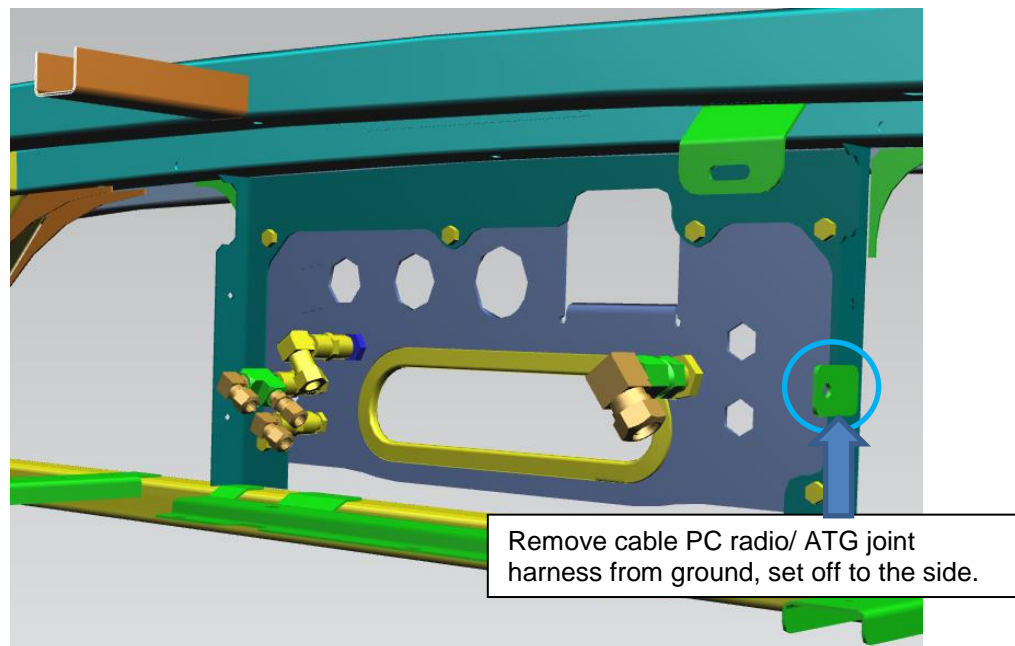

FIGURE 10A: VIEW OF CABLE TO BE REMOVED
16. Disconnect the PC radio/ATG joint harness from the bulkhead bracket ground plate. Set off to the side. See Figure 10A. Trim off existing ground stud.